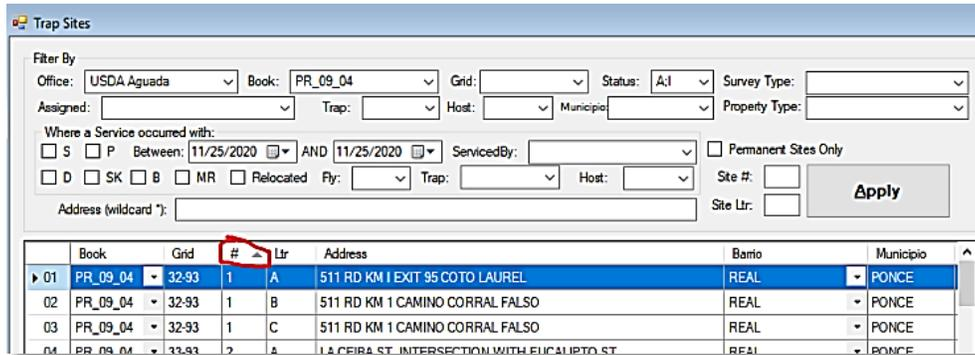

Figure 12. Sort Trap Sites
**Step 4:** Put the trap sites in ascending order by selecting the # sign. (Figure 12)